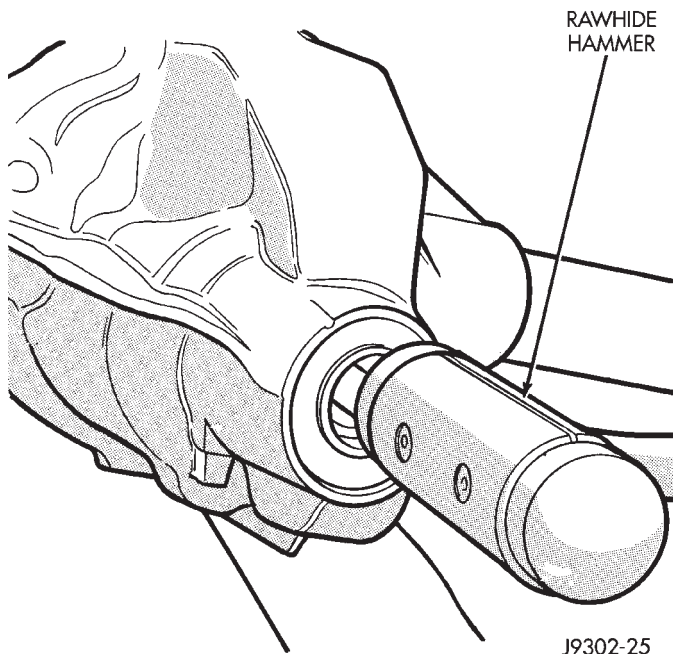

Fig. 22 Remove Pinion Gear
(3) Remove the pinion gear from housing (Fig. 22). Catch the pinion with your hand to prevent it from falling and being damaged.